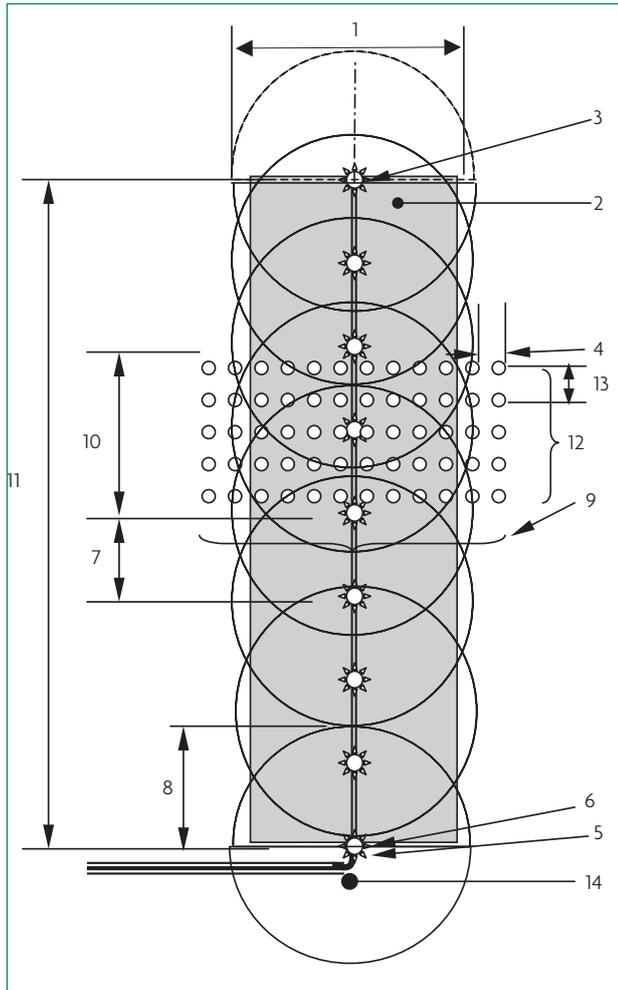

Figure 3.1. Field collector layout for sprayline systems
2. Mark location of pressure regulators, flush valves and positions where tests are to be conducted (see example Figure 3.1)
4. Measure the irrigation strip length and width as defined in Figure 3.1